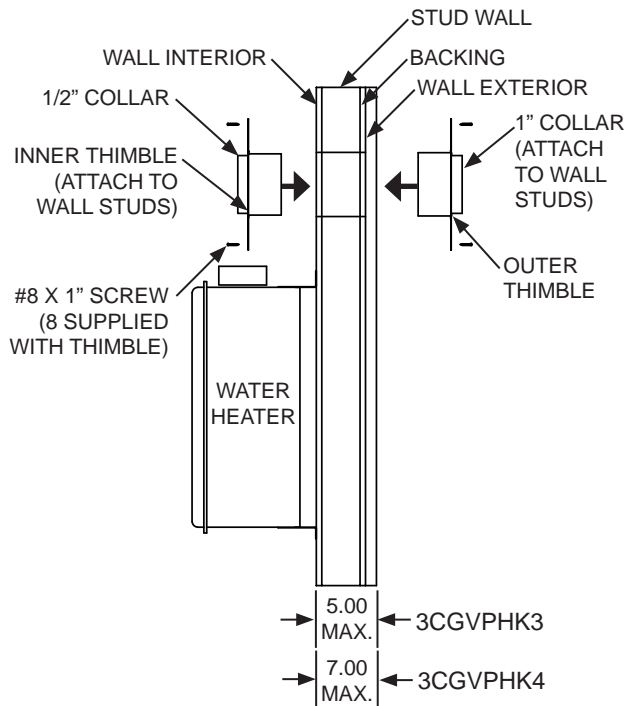

FIG. 1
When penetrating walls for new construction an adjustable wall thimble can be used and purchased separately (Metal-Fab part number 3CGVWPKS). The thimble is not included in these kits. Install the adjustable telescopic wall thimble between 16" on-center exterior wall framing as shown in **FIG. 1**, using the (8) #8 x 1" wood screws provided with the thimble. The thimble can adjust from a minimum distance of 3" to a maximum distance of 5-1/2". It has an interior half and exterior half. The interior half has a 1/2" collar to accommodate interior wall materials such as sheet rock. The exterior half has a 1" collar to accommodate exterior wall materials such as stucco.